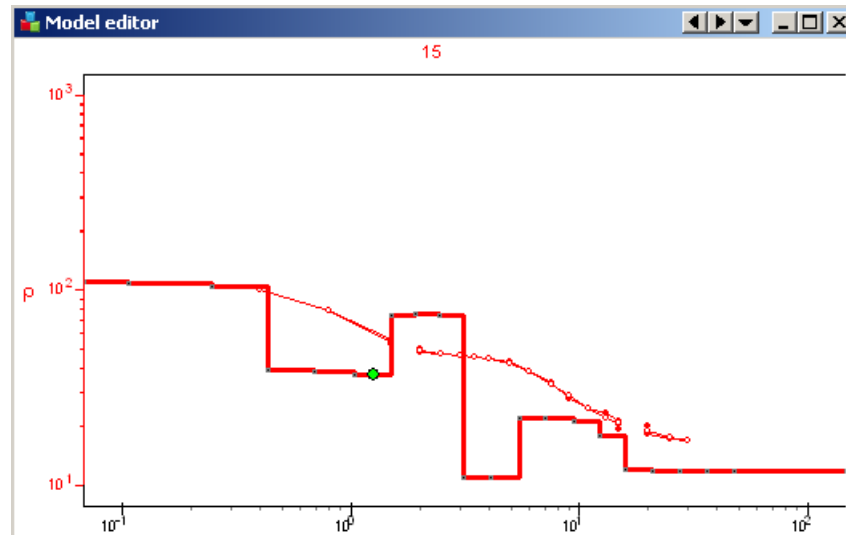

Fig. 26 Example of multilayered model
**Layers summarization** dialog is used to convert multilayered models obtained by Smooth or Focused inversion into simpler geological models which contain less layers. Multilayered model which consists of 14-20 layers is convenient at the beginning of interpretation (fig. 26).